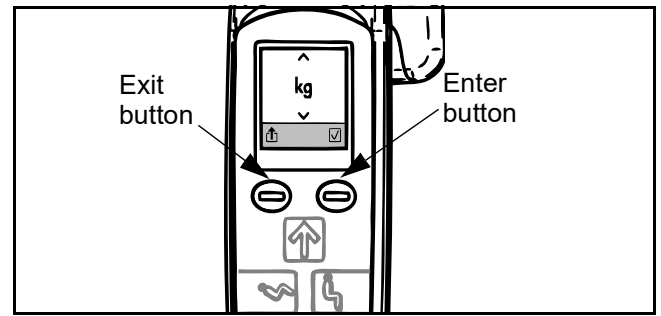

Fig. 72
- 3) Press the Enter button to access the units of measurement option. The units of measurement "kg" or "lb" will replace the scale icon in the middle of the screen (see Fig. 72).